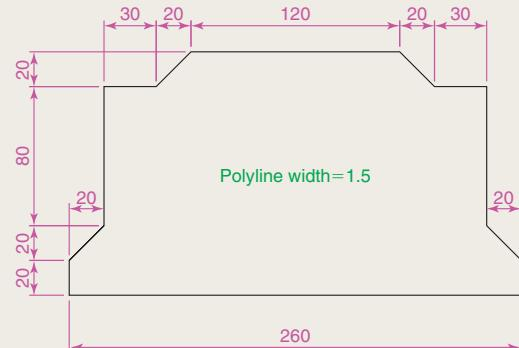

Fig. 2.34 Exercise 7
7. Using the **Polyline** tool, construct the outline given in Fig. 2.34.